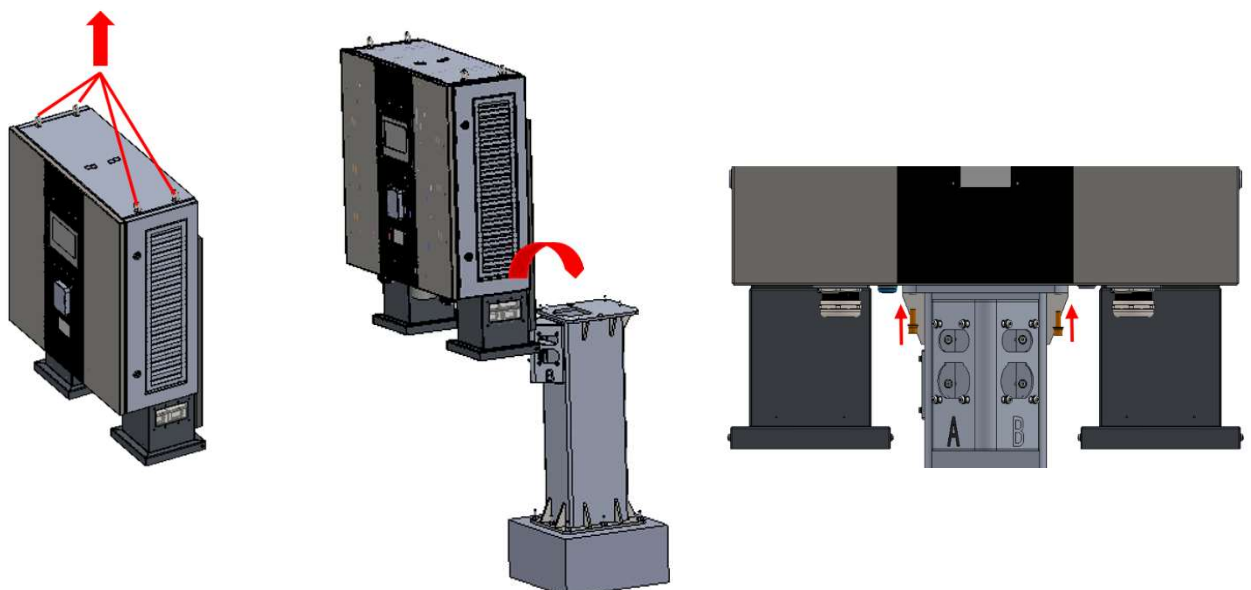

Figure 30 Charger main body installation diagram
(3) Move the charger main body to the pole position by hand crane, align the screw holes, and fix the charger main body on the pole with 7 screws of M8 × 30, as shown in Figure 30.